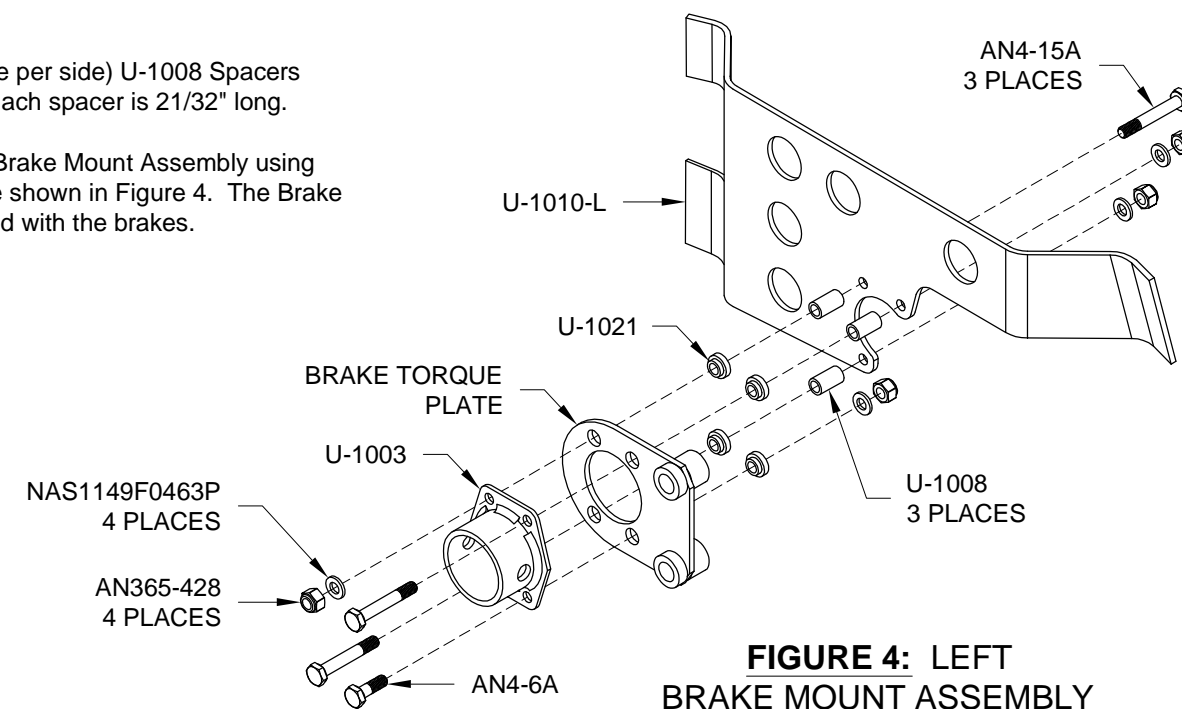

FIGURE 4: LEFT BRAKE MOUNT ASSEMBLY
Step 6: Build the Left Brake Mount Assembly using the parts and hardware shown in Figure 4. The Brake Torque Plate is supplied with the brakes.